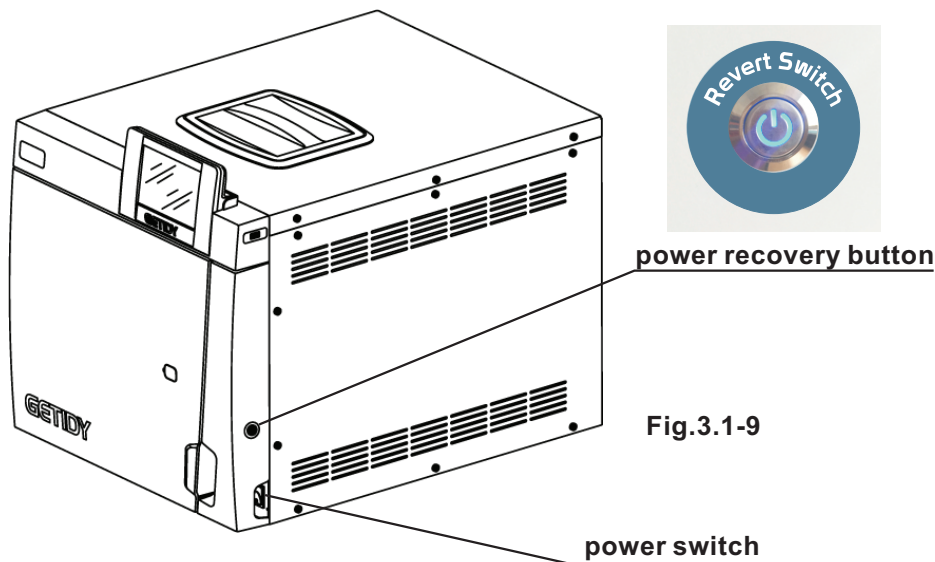

Fig.3.1-9
- After you put medical instrument into the tray,turn on the power (green switch indicator light).(Fig.3.1-9)
- Press the power revert button and LCD screen appears the main interface.(Fig.3.1-9)